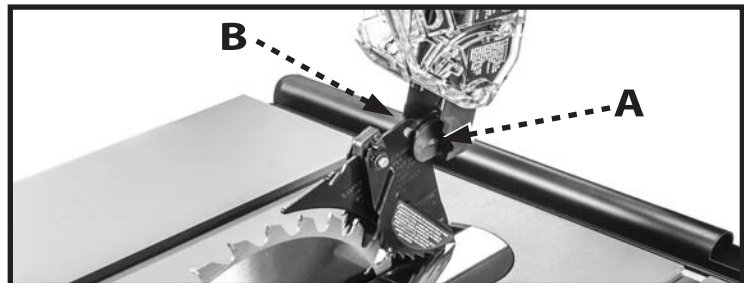

FIGURE 6
Hold the blade guard assembly as shown in Figure 6 and engage the pin (A) with the slot in the riving knife (B). Pull blade guard assembly up in to place.